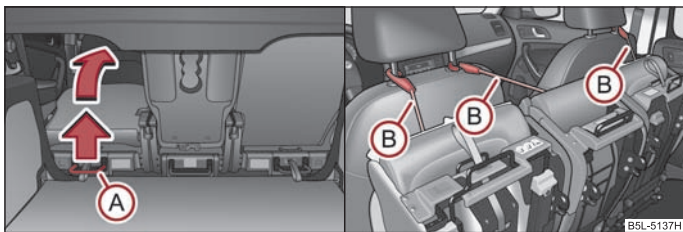

Fig. 64 Fold seat forward/secure folded forward seats
- Pull the lever ⇒ fig. 64 up and then fold the seat fully forwards.
- Secure the folded forward seat with the aid of the fixing belt (B) to a guide rod of the head restraint for the front seat ⇒ fig. 64.